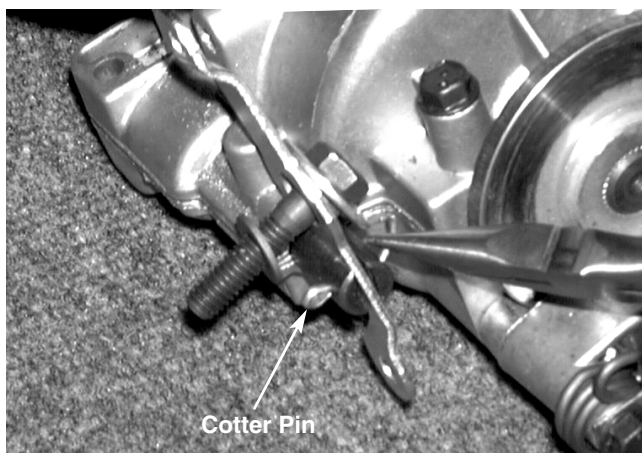

FIGURE 1.
- 2). Remove the cotter pin securing the shift lever to the shift fork assembly using needle nose pliers. See figure 1.